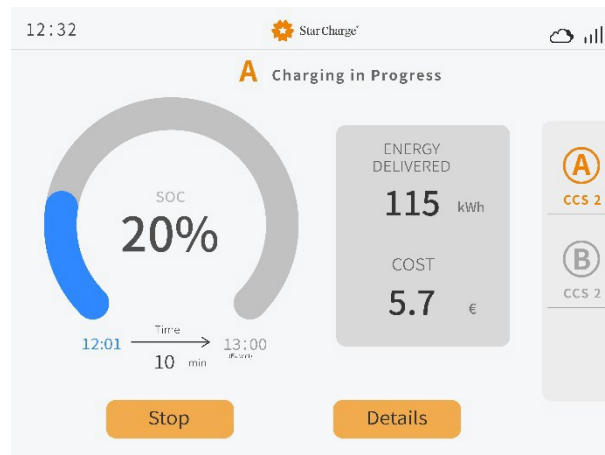
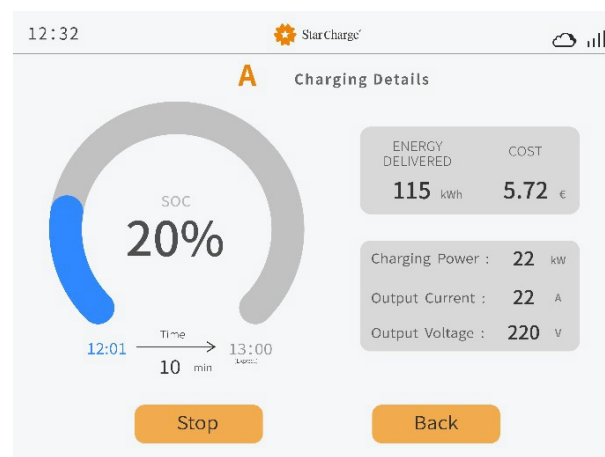

Figure 3-3 Charging interface in progress
Figure 3-4 Charging details interface
Step 3: During charging, the charging status interface is displayed on the EVSE screen. Click "Charging Details" to view charging details of the EVSE, as shown in FIG. 3-4. Click A and B buttons on the far right of the screen to switch to interfaces of other charging connectors, as shown in FIG. 3-3.
Step 3: During the charging process, the charging status interface is displayed on the EVSE screen. Click "Charging Details" to view the charging details of the EVSE, and check the charging details in the mobile phone APP. Click A and B buttons on the far right of the screen to switch to other charging connector interfaces. (as shown in Figure 3-3)